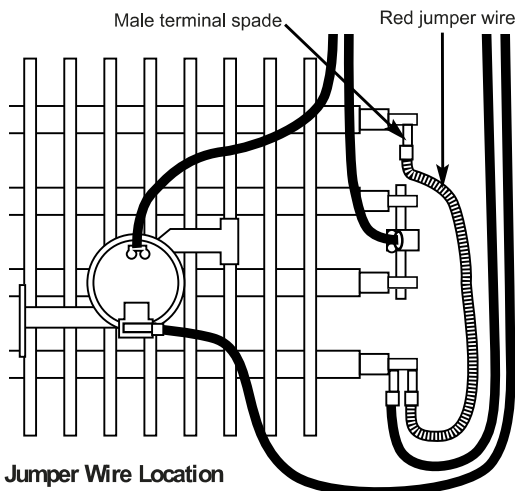

Fig. 3: Jumper Wire Location
1. Remove the red jumper wire as shown in Figure 3 and discard.